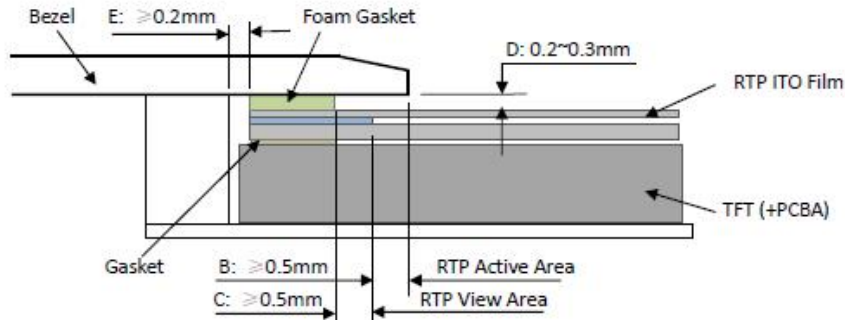

Figure 4
- It should bezel touching the RTP Active Area (A.A.) to prevent abnormal touch.It should left gab $D=0.2\sim 0.3\text{mm}$ in between. (Figure 4)
- 为避免面框直接压在动作区 (A. A.) 上造成误动作，面框与电阻触摸屏 (RTP) 之间应留有一定的空隙 $D=0.2\sim 0.3\text{mm}$ 之间. (附图 4)
(between the bezel and RTP).The suggested figures are $B \geq 0.50\text{mm}$; $C \geq 0.50\text{mm}$. (Figure 4)
- The bezel side wall should keep space $E = 0.2 \sim 0.3\text{mm}$ from the RTP. (Figure 4)
垫圈内边缘到 V. A. 区的距离 $C \geq 0.50\text{mm}$. (附图 4)
- 在设计面框与 RTP 组装时, 应考虑到面框内侧与 RTP 外侧的间距 $E \geq 0.2\text{mm}$. (附图 4)